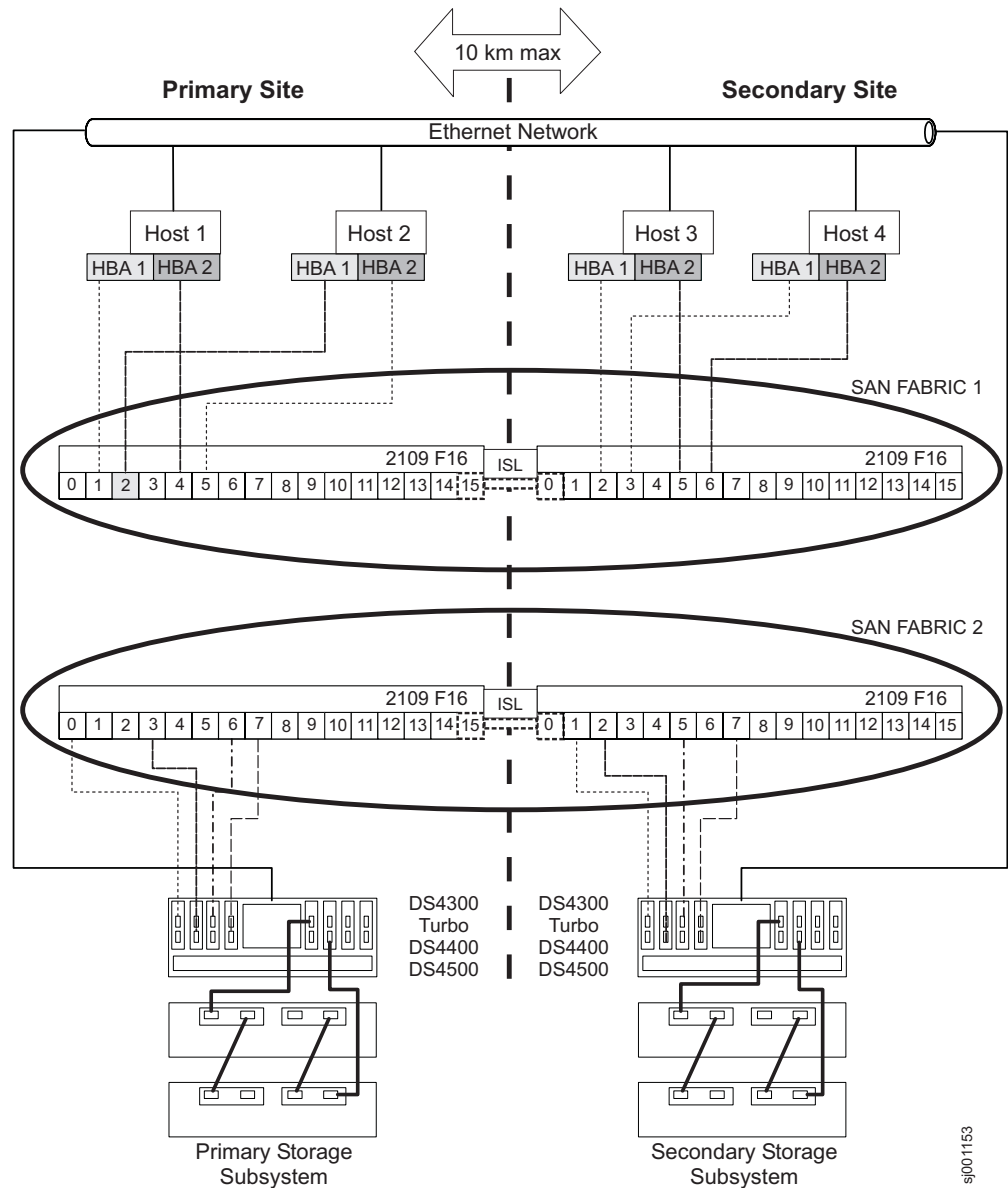

Figure 40. Highest Availability Campus configuration
Figure 40 on page 115 shows the Highest Availability Campus configuration after installation is complete.
Important: The fibre-channel switches in Figure 40 on page 115 contain 16 ports each, which leaves many unused ports per switch. If you are performing switch zoning using the fibre-channel host port number, instead of the WWNN of the SAN fabric logged-in ports, do not include fibre-channel switch ports with no fibre-channel connections in the zone definition. If you include these unused ports in your zones, unauthorized access to the SAN might result.
Figure 40 on page 115 shows how the four fibre-channel switches are cabled for this Highest Availability Campus configuration. The zones are configured on the switch to allow one port per zone for a storage subsystem connection, and one HBA port per zone for each host. There are four zones in the following configuration example.
- Refer to Figure 40 on page 115 as you complete the steps in this procedure.